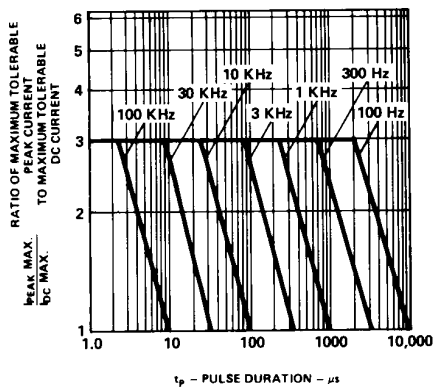

Figure 5. Maximum tolerable peak current vs. pulse duration ( $I_{DC\ MAX}$  as per MAX ratings).
- See Figure 5 (Red), 10 (Yellow), or 15 (Green) to establish pulsed operating conditions.